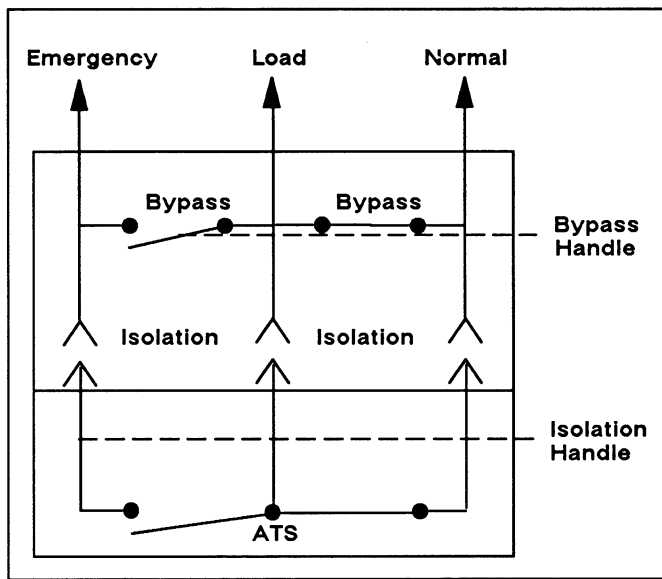

Figure 15. Isolation to Open.
2. Isolate the Automatic Transfer Switch as follows (see Figures 15. and 16.):